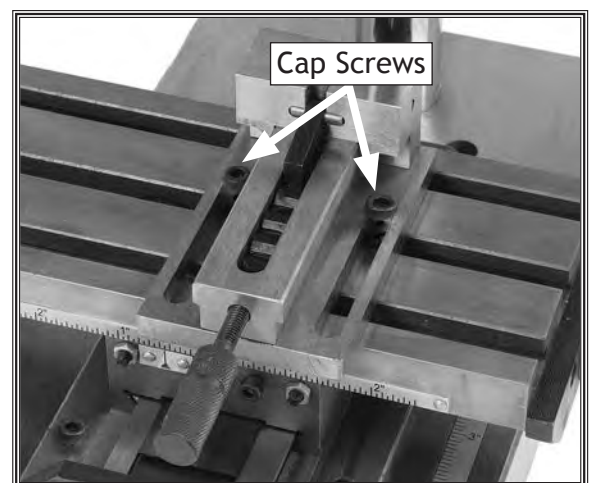

Figure 11. Securing the optional vise.
2. Place the vise on the compound slide table and loosely secure it by threading (2) M6-1 x 30 cap screws through the vise and into the T-slot nuts, as shown in **Figure 11**.